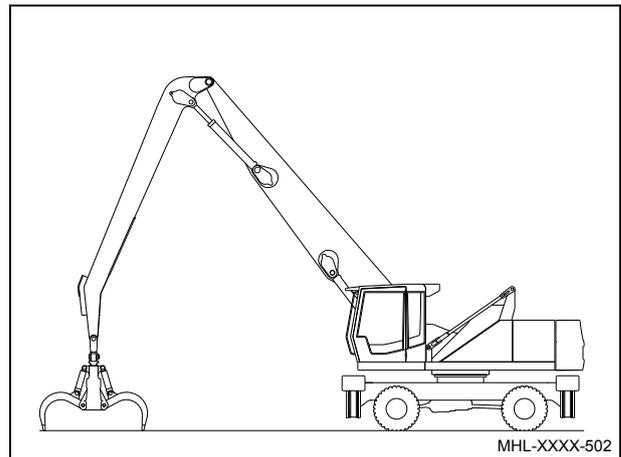

Fig. 122 Proper parking of the machine
- When parking the machine, the uppercarriage must be longitudinal to the undercarriage, and the cab must be in the home position. The dipperstick must be positioned vertically and the open grab must be placed on the ground. The stabilizer should be retracted in the standard version with stabilizer plates, if using enlarged stabilizer plates (optional), place these on the floor (see fig. 122).